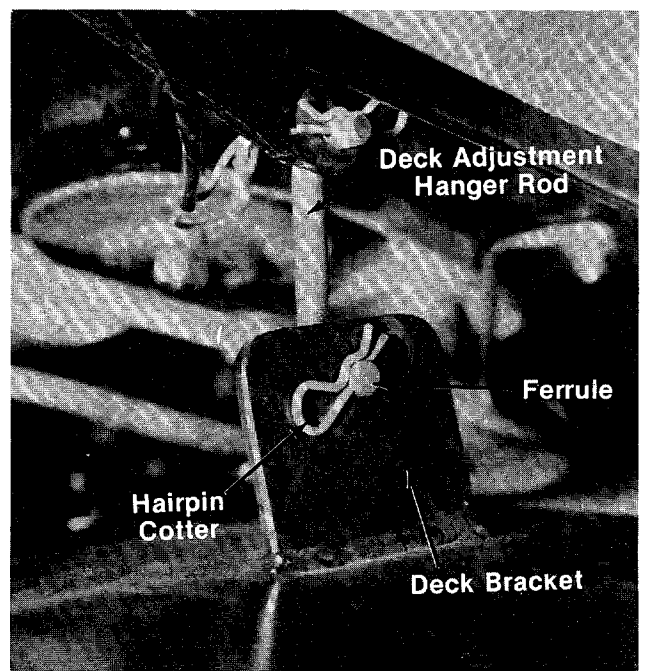

FIGURE 39.
8. Remove the hairpin cotter which holds the ferrule and deck hanger adjustment rod to the deck bracket, located on the left hand side of the deck. See figure 39.